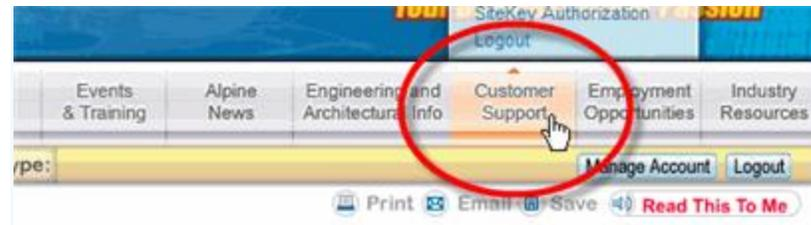

Figure-11
1. From the Alpine website, click your mouse on the tab labeled: **Customer Support** (*Figure-11*).